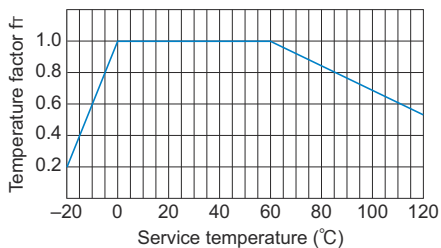

Fig.2 Temperature Factor
If the temperature of the screw nut exceeds the normal temperature range, the seizure resistance of the nut and the strength of the material will decrease. Therefore, it is necessary to multiply the dynamic permissible thrust (F) by the corresponding temperature factor indicated in Fig.2.
$f_r$  : Temperature factor (see Fig.2)